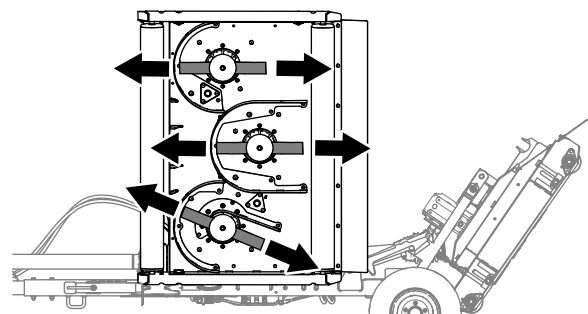

Figure 64
1. Align the mower blade as shown in Figure 64.